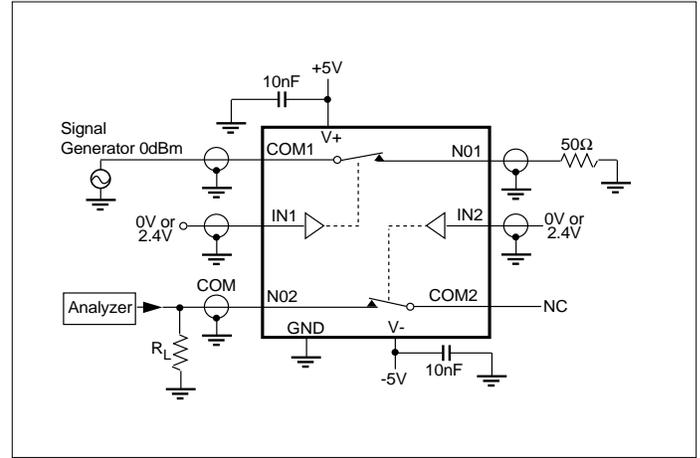

Figure 6. Crosstalk
8. Between any two switches. See figure 6.
- Between any two switches. See figure 6.